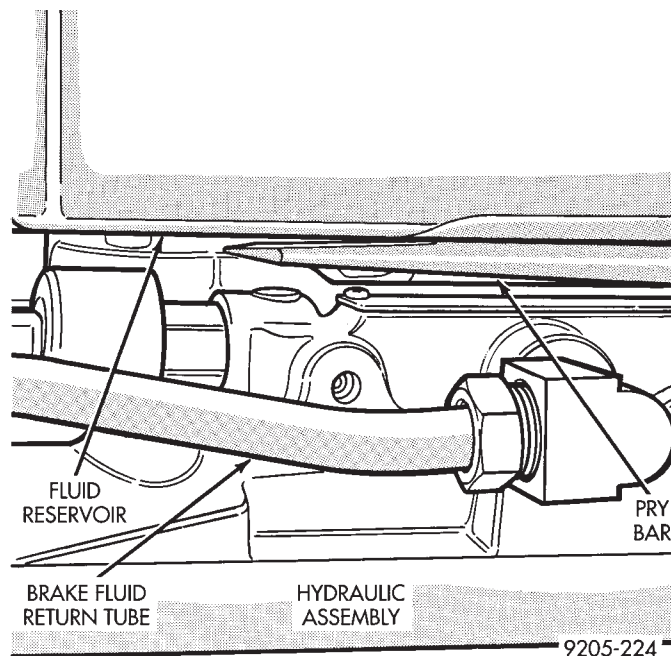

Fig. 12 Remove Reservoir From Hydraulic Assembly
(5) Remove reservoir from hydraulic assembly by CAREFULLY prying between reservoir and hydraulic assembly with a blunt prying tool (Fig. 12). Use a